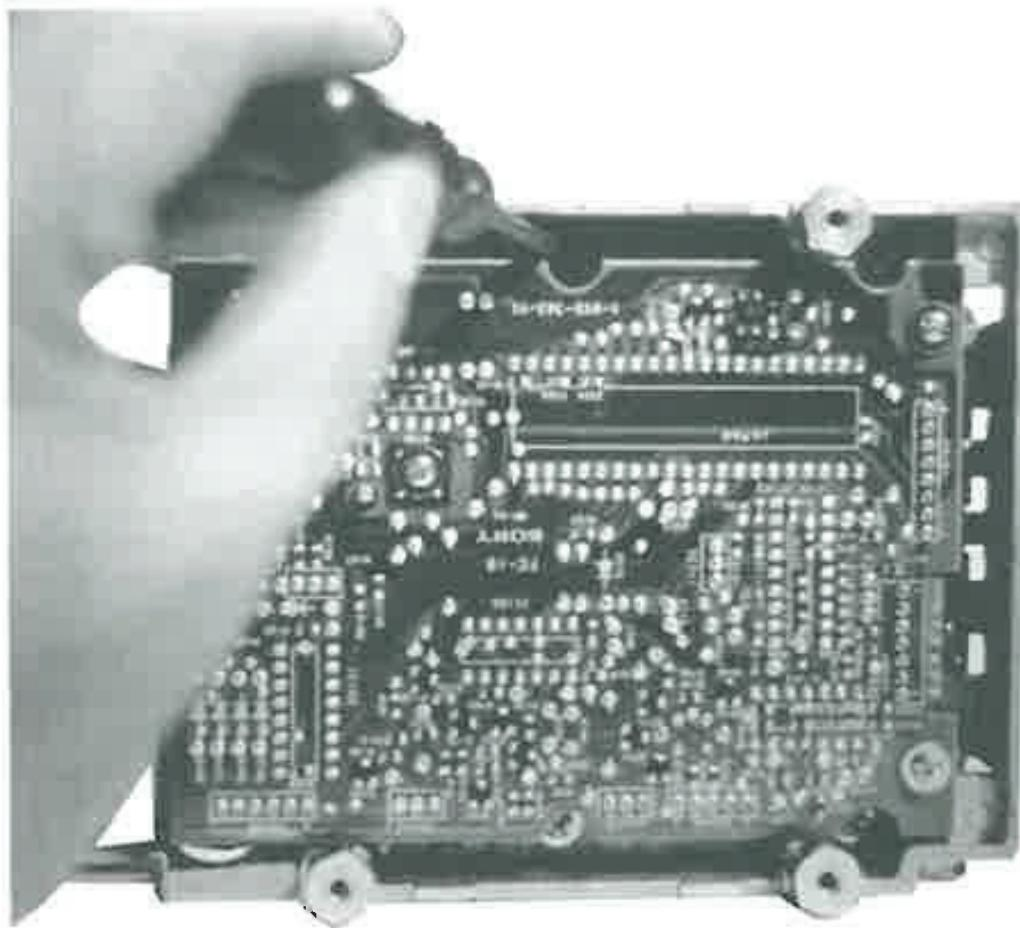

Figure 13-19 Carrier mechanism screw locations.
7. Rotate the drive such that the circuit board is facing up. As shown in Figure 13-19, use a small $\frac{1}{8}$ -inch slotted screwdriver to remove four gold-colored flat-head screws mounted *beneath* the circuit board.